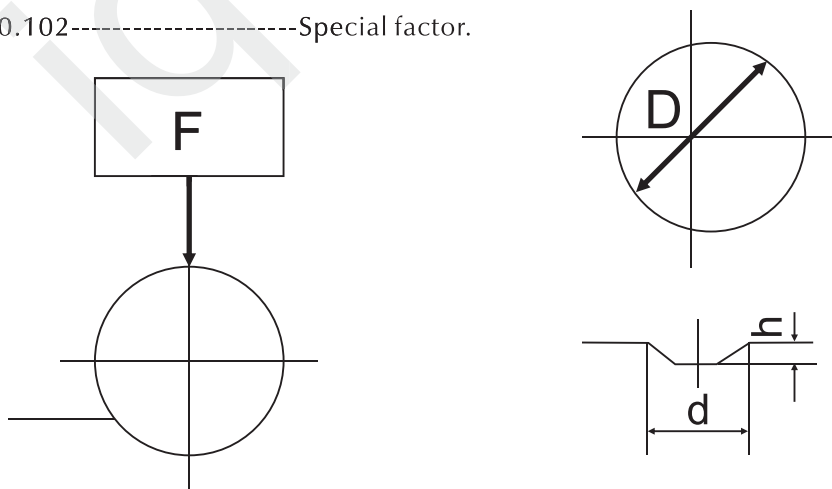

Fig 1
1.2 The digital Brinell hardness test is to use a steel ball of a certain diameter to press on the substance surface to be tested with specified test force (fig.1). Through the specific time of holding test force, remove it and measure the diameter of the indentation of the specimen surface with reading microscope. Take the two points d1 and d2 and input them and on the LCD screen appears the Brinell hardness value.